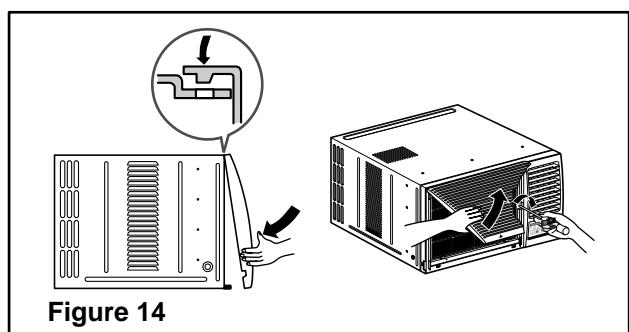

Figure 14
10. Attach the front grille to the cabinet by inserting the tabs on the grille into the tabs on the front of the cabinet. Push the grille in until it snaps into place. (See Fig. 14)
11. Lift the inlet grille and secure it with a screw (Type A) through the front grille. (See Fig. 14)